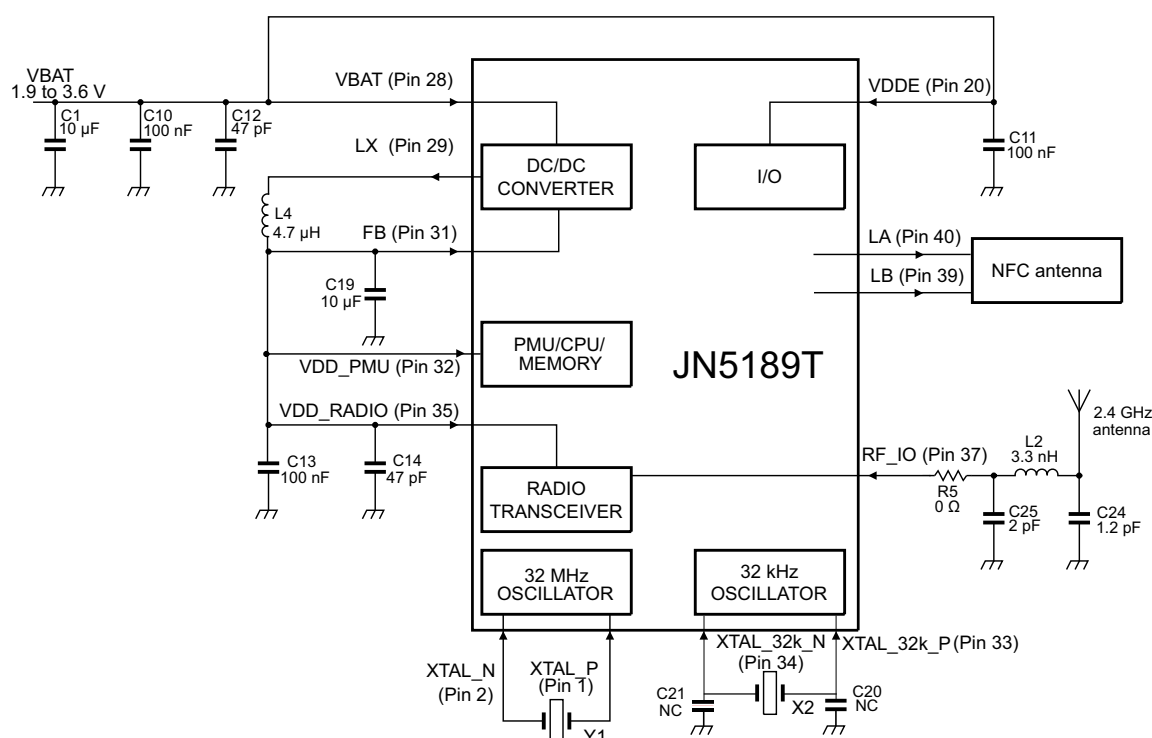

**Fig 10. Application diagram – battery powered solution**
A schematic diagram of the reference module is shown in Figure 10. Details of component values and PCB layout constraints can be found in Table 10.
**Table 10. Component descriptions about Figure 10**